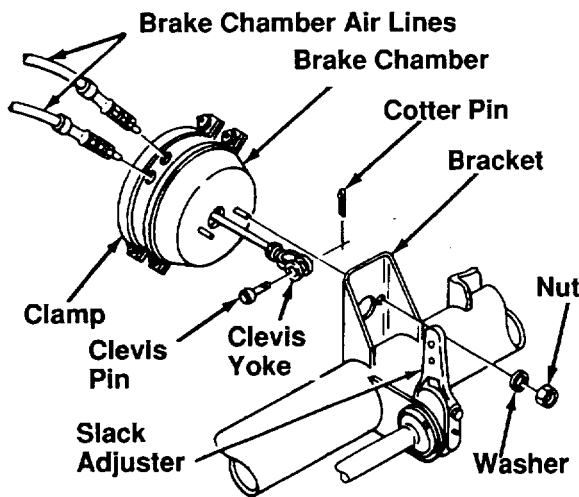

Figure 4-48. Removing and Installing Brake Chamber
**4-42. Brake Air Chamber Test and Replacement of Brake Chamber, Fig. 4-48.**
(1) With towing vehicle connected and vehicle brakes applied, coat the flanges and connections on the air chamber with soapy water.
(2) Check for leakage indicated by bubbles. No leakage is permissible.
(2) Disconnect two brake hoses from brake chamber, fig. 4-48.
(3) Remove cotter pin and clevis pin securing clevis yoke to slack adjuster.
(4) Remove two nuts, two lockwashers securing brake chamber to bracket. Discard lockwashers.
(5) Remove brake chamber.
(1) Place brake chamber in position on bracket, fig. 4-48.
(2) Install two new lockwashers and two nuts to secure brake chamber to bracket.
(3) Check clevis yoke adjustment, para 4-41.
(4) Install clevis pin and cotter pin to secure yoke to slack adjuster.
(5) Connect two brake hoses to brake chamber.